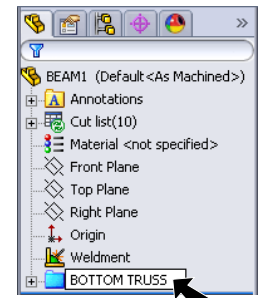

Fig. 30
Step 2. Key-in **BOTTOM TRUSS** for folder name, **Fig. 30**.